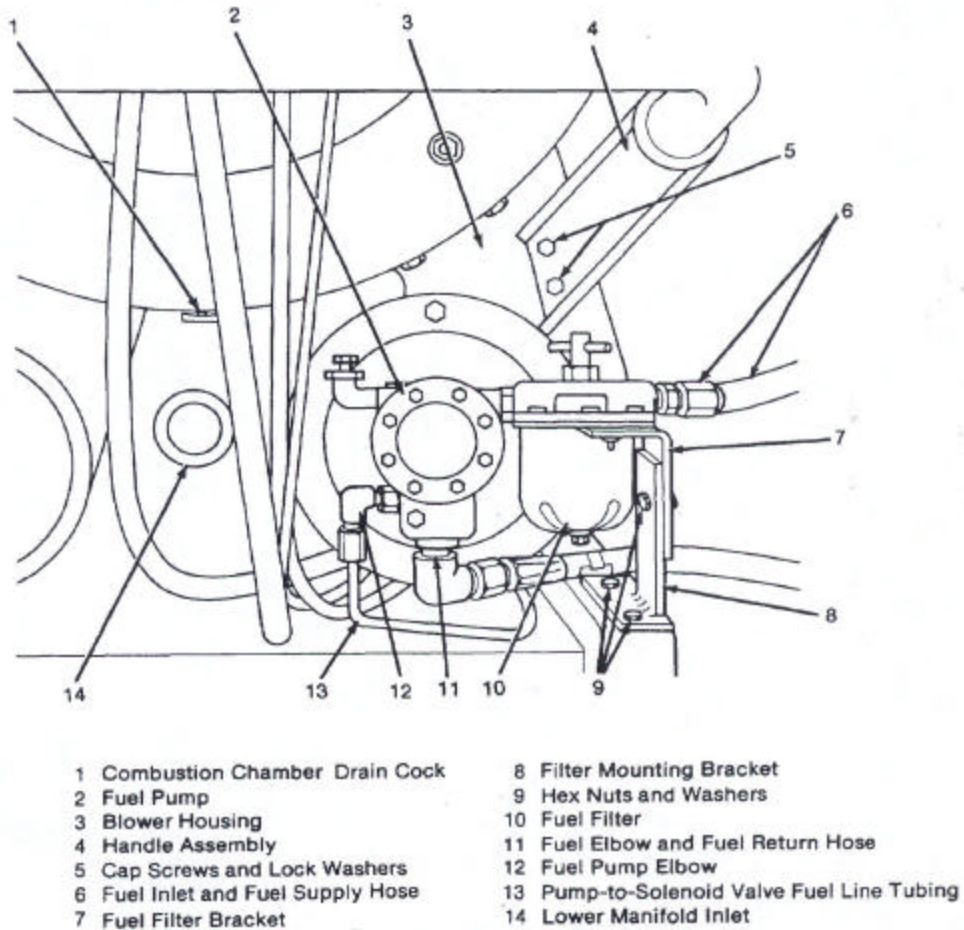

Figure 5-15
(1) Disassemble (**Figure 5-15**)
(e) Insert fuel pump (23) with fuel filter (20) attached into fuel pump bracket (figure 5-15) until pump seats and dovetail coupling engages.
(g) Attach filter mounting bracket (8, figure 5-15) to water heater skid, using flat washers, cap screws, lock washers, and hex nuts.
(h) Attach fuel filter bracket (7, figure 5-15) to fuel filter (10) with hex screws, lock washers, and hex nuts.
(j) Connect fuel line tubing (13, figure 5-15) at fuel pump elbow (12). Make certain fitting is tight.